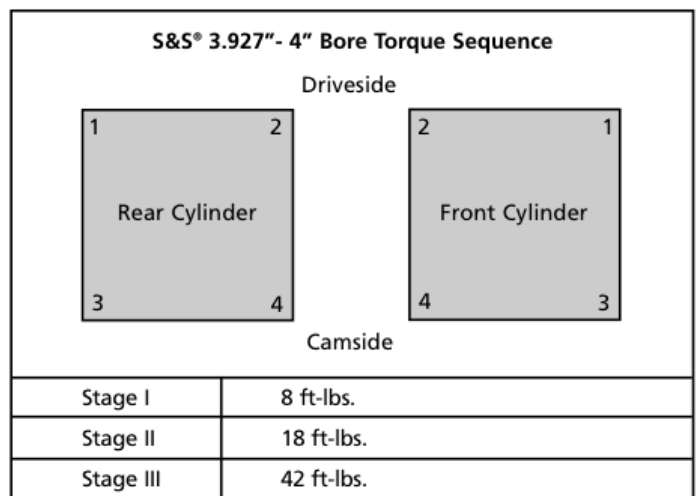

Figure 1
- 7- Torque bolts to 42 ft-lbs. in same pattern used to install heads during engine assembly. See Figure 1. Tighten bolts in following stages: